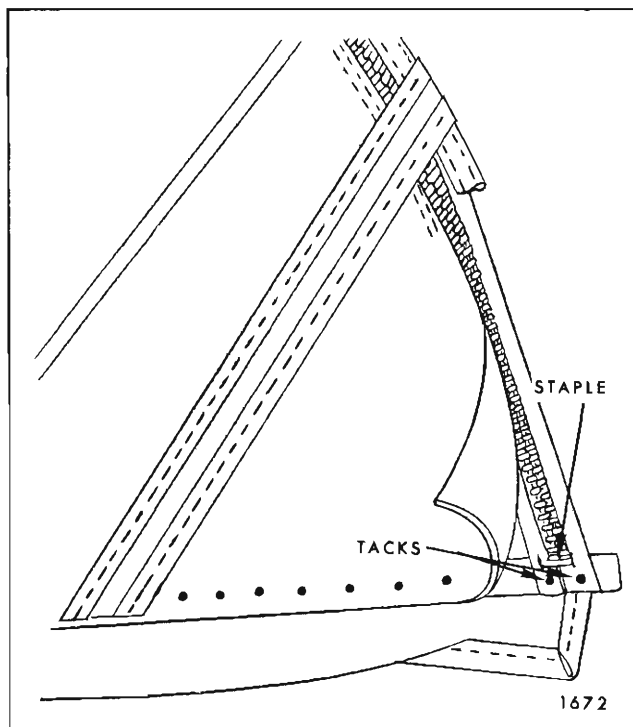

Fig. 5-I-52—Zipper Installation at Rear Quarter Trim Stick
9. Staple both sections of zipper tape together. Staples will aid in preventing zipper scoops from disengaging and also serve as a stop for the slide fastener (Fig. 5I52).
11. Tack zipper tape to rear quarter trim stick (Fig. 5I52). Zipper tape should not be pulled taut as zipper teeth may show through top material after top has been properly installed.